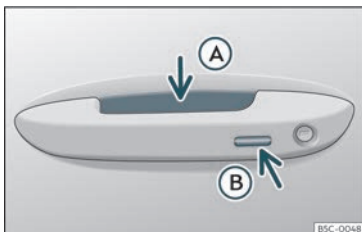

Fig. 81 Door handle: sensor surfaces
>>> Fig. 81
»» **Fig. 81 A** (arrow) of the handle and the vehicle unlocks.
»» **Fig. 81 B** (arrow) on one of the front door handles. The door that is used must be closed.
- Touch (*once*) the sensor surface»» **Fig. 81 B** (arrow) on one of the front door handles. The vehicle locks with the "Safe" security system»» page 101. The door that is used must be closed.
- Touch (*twice*) the sensor surface»» **Fig. 81 B** (arrow) of one of the front door handles to lock the vehicle without activating the "Safelock" security system»» page 101.
» **Fig. 81 B** within the following 5 seconds. Do not grasp the door handle; otherwise the vehicle will not unlock. Deactivation is also possible if the vehicle is locked through the driver's door lock.
To close all the electric windows and the sunroof using the **comfort function**, keep a finger for a few seconds on the locking sensor surface » **Fig. 81 B** (arrow) of the door handle until the windows and roof have closed.
The sensor surfaces on the door handles could engage if hit with a water jet or high pressure steam if there is a valid vehicle key in the proximity. If at least one of the electric windows is open and the sensor surface » **Fig. 81 B** (arrow) on one of the handles is activated continuously, all windows will close.
- **OR:** touch the sensor surface on the outside of the door handle twice >>> **Fig. 81**